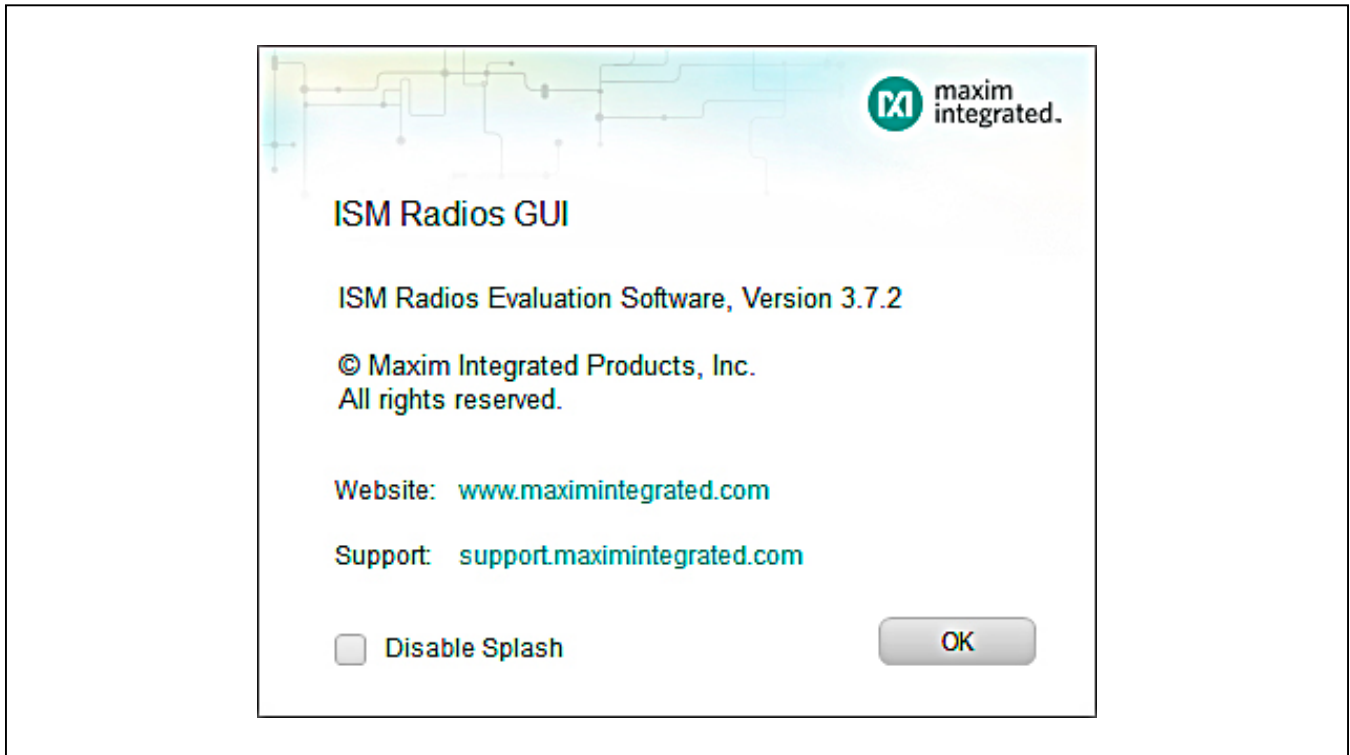

Figure 3. MAX4147XEVKIT GUI Splash Screen
- a. A GUI splash screen will be displayed, as shown in Figure 3.
- 2) Connect the MAX4147XEVKIT to the FTTH Board, be sure the USB connector is oriented on the opposite side of the SMA connector (see Figure 3).